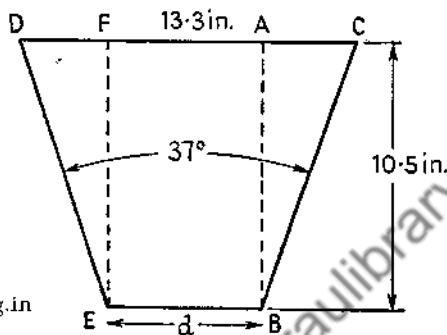

Fig. 29
(3) Calculate the distance  $d$  in the template shown in fig. 29.